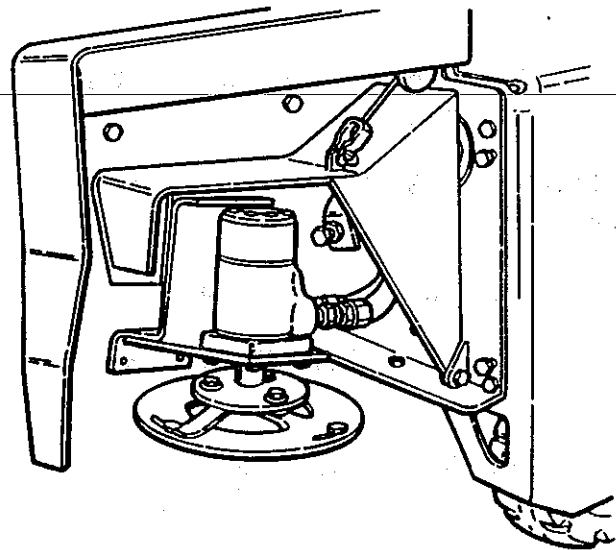

Figure 3-16. Tie Down Holes
3. Tie the machine down using the tie down holes in the frame behind both front wheels and eye bolts located at rear of frame; see figure 3-16.